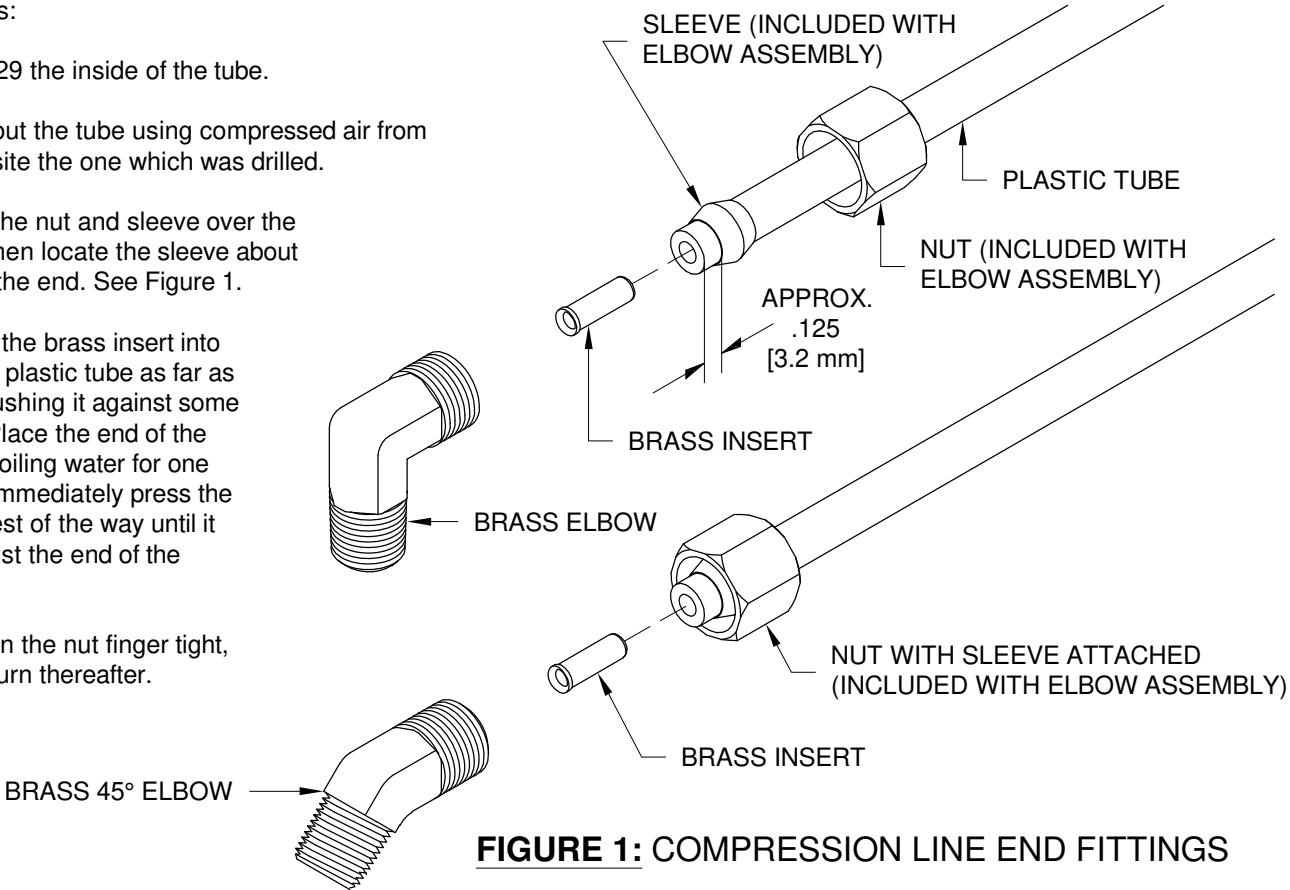

FIGURE 1: COMPRESSION LINE END FITTINGS
- Step 3: Slide the nut and sleeve over the plastic tube, then locate the sleeve about 1/8 inch from the end. See Figure 1.